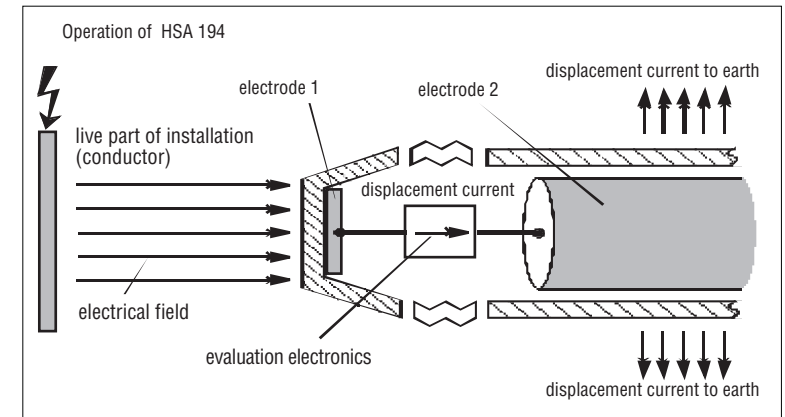

Fig 4: Functional principle
3.1 If the operating head of the voltage detector is placed in such an alternating electrical field, a displacement current (capacitor principle), which is evaluated and indicated (visually and acoustically) by the downstream electronic system, flows via the measuring electrodes E1 and E2 (Fig. 4).